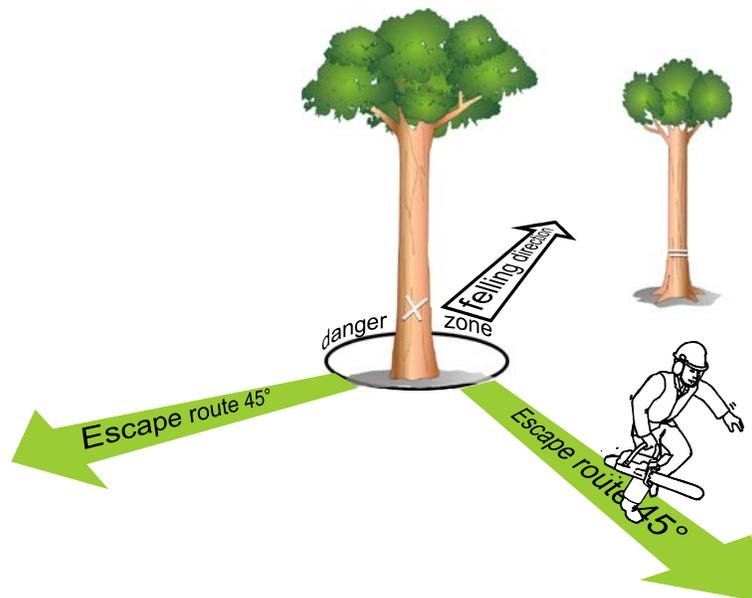

Figure 29: Create two escape routes
- Choose a line of retreat 45° diagonally backwards, away from the direction of fall. (Fig. 29).